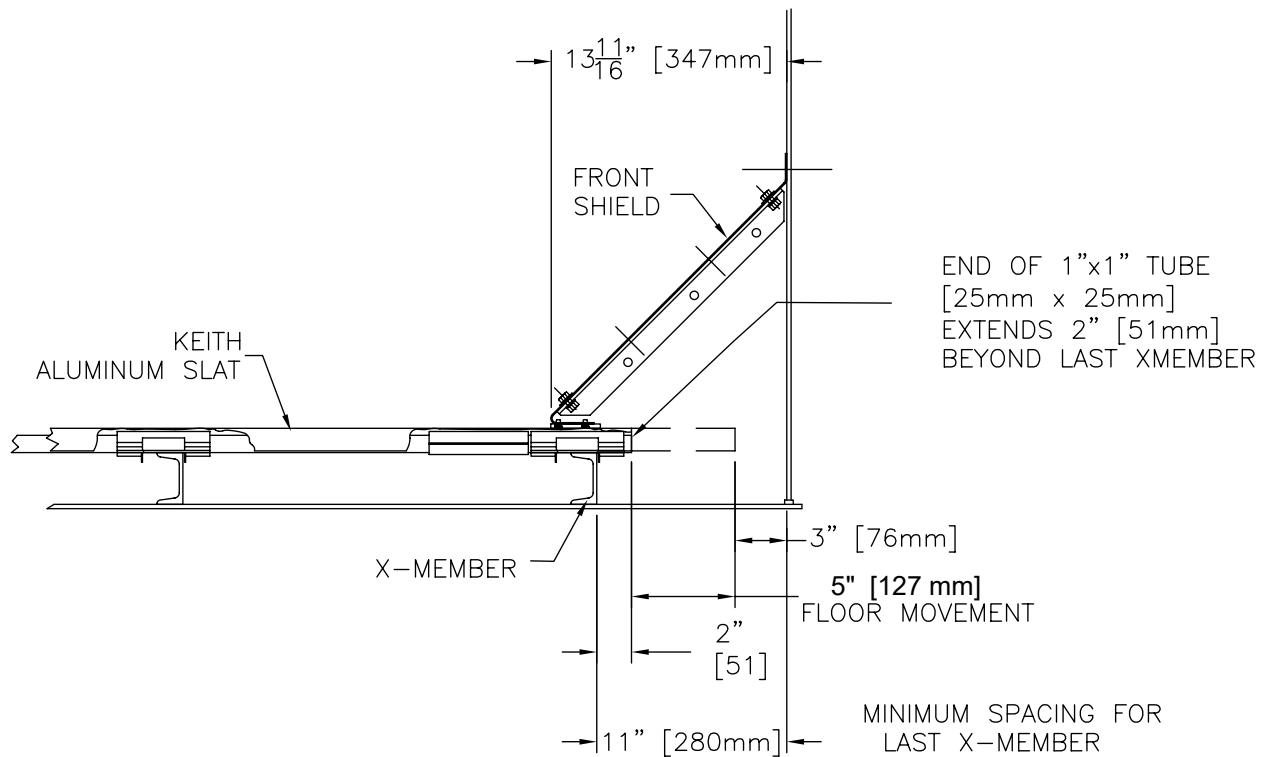

Figure 6
4. Lay out and install the cross-members. The style of the baffle plate determines spacing of the cross-member nearest to the rear door. Normally it should be mounted no closer than 12-1/2" [318mm] inside the doors. See Section 3.2 for more on baffle plate installation. When using a typical slope shield at the front end of the trailer, the last cross-member should be a minimum of 11" [280mm] away from the front wall. (Figure 6)